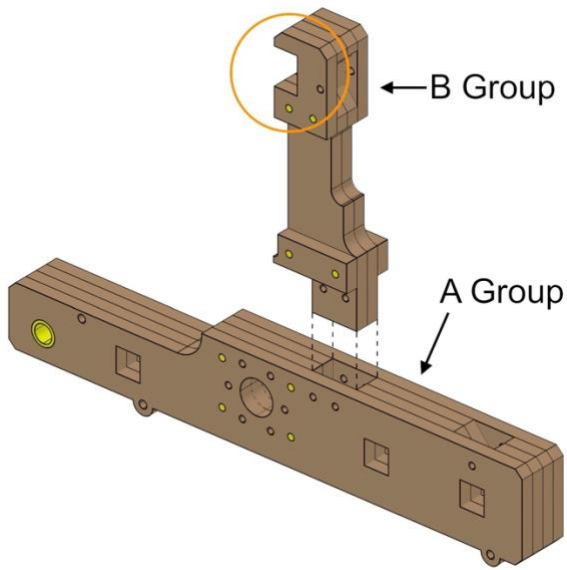

Fig. 9
- Align parts exactly as shown in *Fig. 9*.